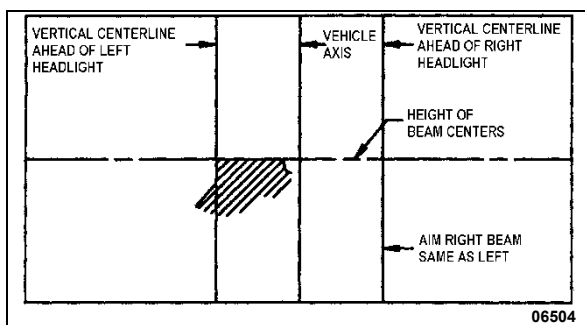

FIGURE 55: LOWER BEAM HIGH-INTENSITY ZONE PROPER LOCATION ON SCREEN
5. Low beam headlights are aimed so that the top edge (the cutoff) of the high-intensity zone is at the vertical location as per Table 1 and the left edge of the high-intensity zone is at the vertical centerline of the headlight (Figure 55).